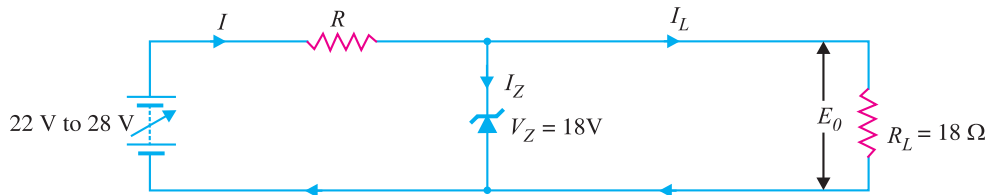

Fig. 6.64
**Example 6.28.** The zener diode shown in Fig. 6.64 has  $V_Z = 18 \text{ V}$ . The voltage across the load stays at 18 V as long as  $I_Z$  is maintained between 200 mA and 2 A. Find the value of series resistance  $R$  so that  $E_0$  remains 18 V while input voltage  $E_i$  is free to vary between 22 V to 28V.